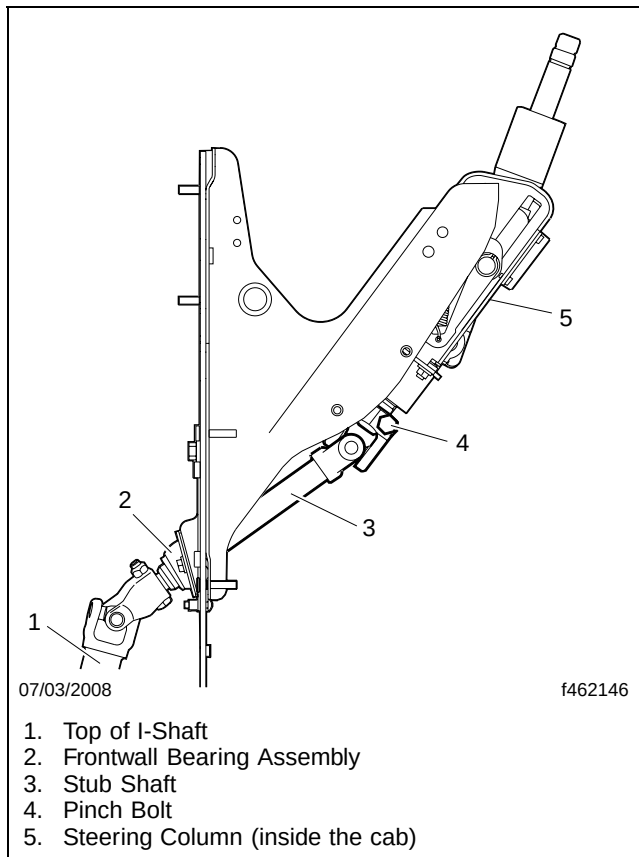

Fig. 5, Stub Shaft Installation, Side View
25. Install the new stub-shaft, and fit a new pinch bolt and nut in the U-joint; as shown in **Fig. 5**. Tighten the nut 30 to 35 lbf-ft (41 to 47 N·m).